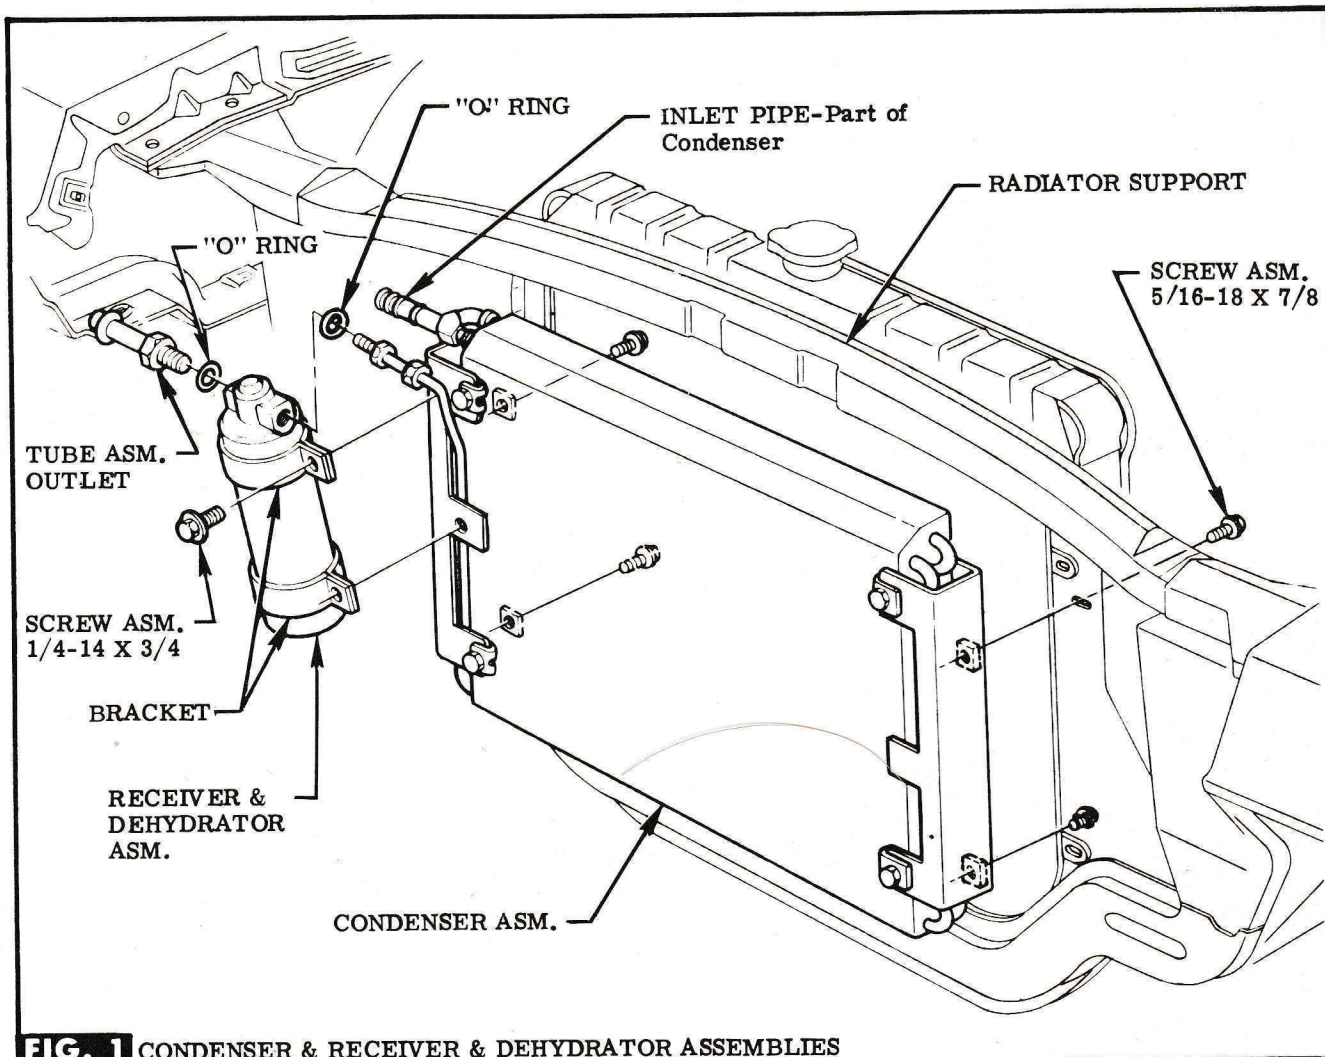

FIG. 1 CONDENSER & RECEIVER & DEHYDRATOR ASSEMBLIES
STEP 5 PLUG (BLACK WIRE) CONNECTOR OF EVAPORATOR HARNESS TO BLOWER MOTOR TERMINAL & ROUTE LT. BLUE & GRAY WIRE THRU DASH PANEL HOLE TO FRONT, SEE FIG. 1.
STEP 1 ATTACH CONDENSER TO RADIATOR SUPPORT AT EXISTING SLOTTED HOLES WITH SCREWS SEE FIG. 1.
STEP 2 ATTACH RECEIVER & DEHYDRATOR TO CONDENSER WITH BRACKETS & SCREWS AT THE SAME TIME ASSEMBLE INLET PIPE (PART OF CONDENSER) TO RECEIVER & DEHYDRATOR WITH "O" RING. BE SURE "O" RING IS PROPERLY SEATED PRIOR TO TIGHTENING NUT ON PIPE. SEE FIG. 1.